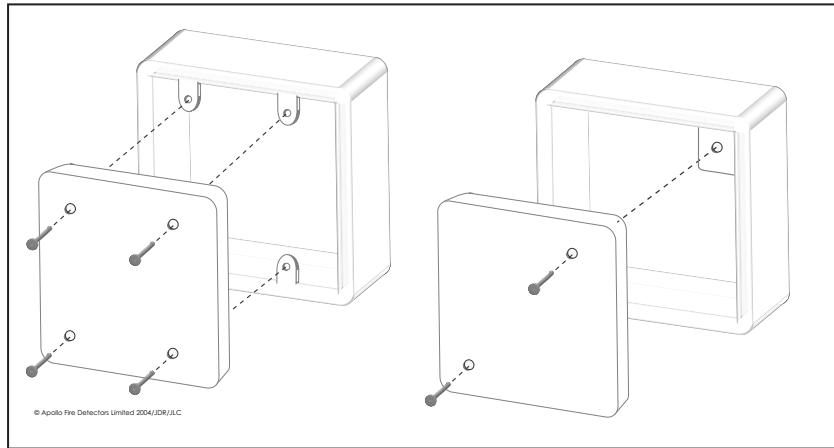

Fig 1. Mounting the XP95A Switch Monitor Input/Output Module
2. Drill holes in the fascia plate corresponding to the holes on the mounting box selected (Fig 1).